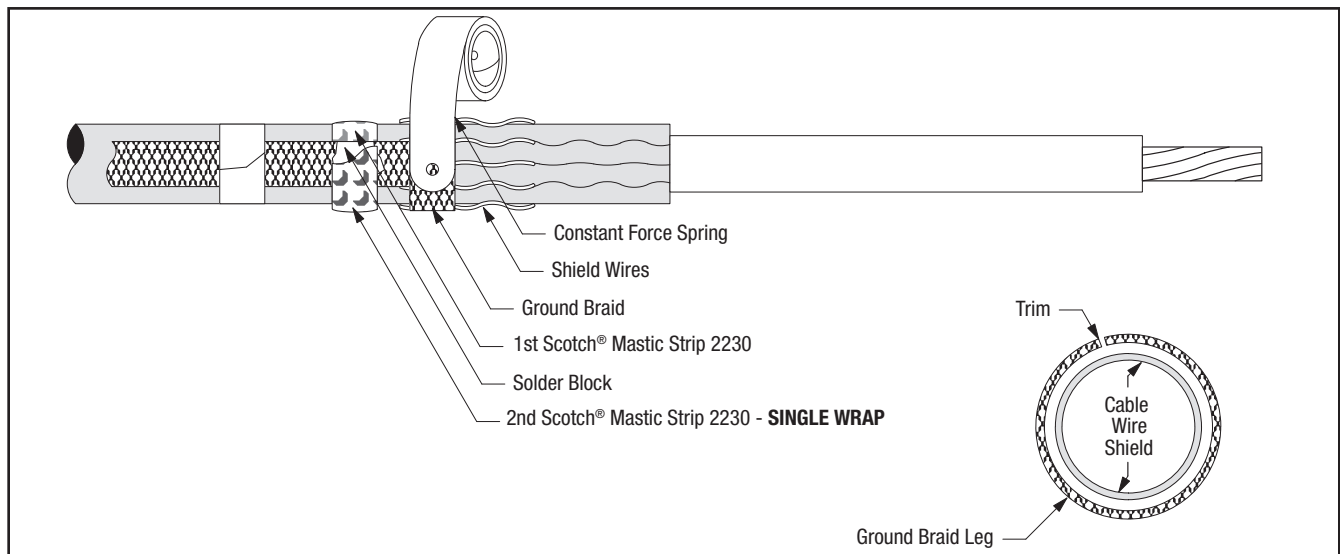

Figure 21
- 13.3 Wrap ground braid around cable shield wires one complete wrap, trim excess at approximately a 45 degree angle, and line up with the pre-bent 45 degree angle already on the ground braid, to prevent overlap. Secure in place with constant force spring. Wrap spring in same direction as ground braid (Figure 21). Cinch (tighten) the spring after wrapping the final winding.
- 13.4 Select second Scotch® Mastic Strip 2230 from kit and remove white release liners. Apply a second **SINGLE WRAP** of mastic over solder block on ground braid and previously applied mastic (Figure 21). Cut off excess.